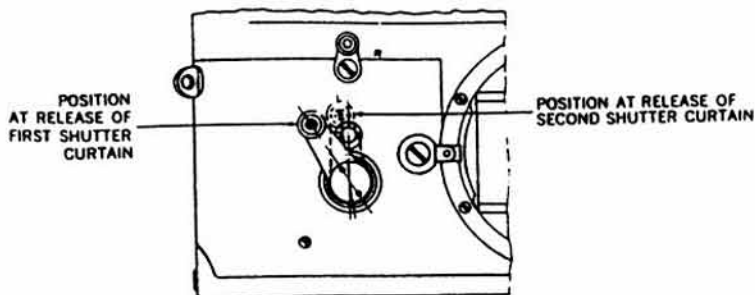

Figure 4-20. Delayed Action Lever, Releasing Positions.
d. *Checking* (fig. 4-20). Set the shutter speed dial to "B", wind the shutter, and depress the delayed action release button. The first shutter curtain should release when the delayed action lever is approximately 30° from its vertical position. The second curtain should release when the lever is approximately 5° from the vertical: